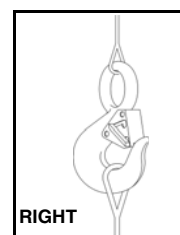
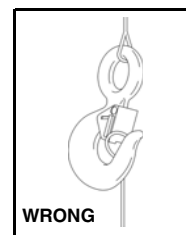

Figure 3
Figure 4
- Always make sure the hook supports the load. (See Figure 3). The latch must never support the load (See Figure 4).
- When placing two (2) sling legs in hooks, make sure the angle between the legs is less the 90° and if the hook or load is tilted, nothing bears against the bottom of this latch. (See Figures 3 & 4).